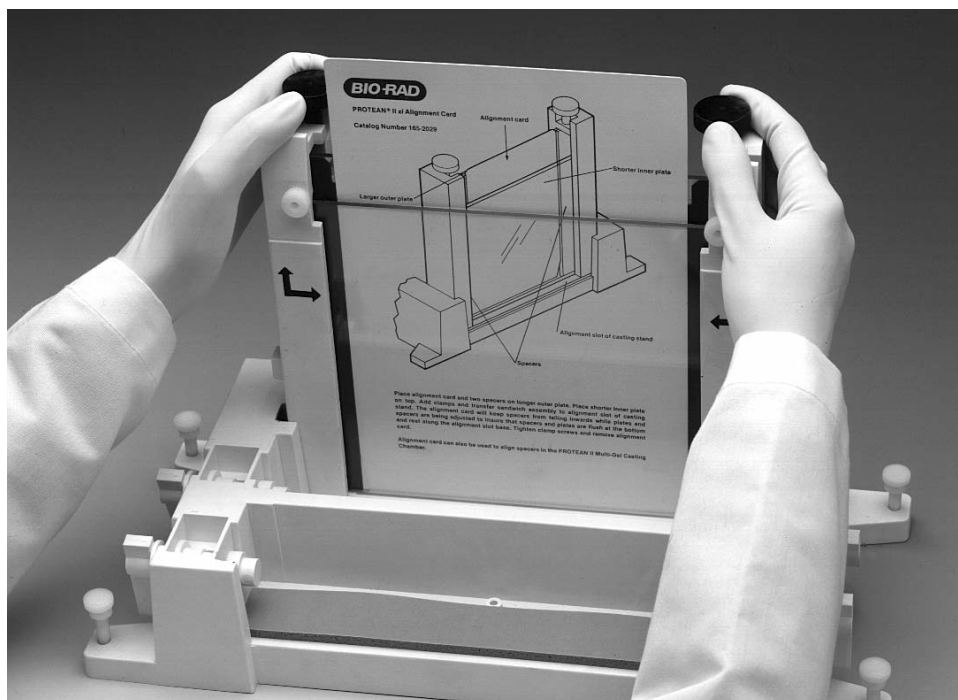

**Fig. 4.18. Attaching the clamps to the glass plate assembly.**
4. Grasp the gel sandwich firmly. Guide the left and right clamps onto the sandwich so that the long and short plates fit the appropriate notches in the clamp (Figure 4.18). Tighten the screws enough to hold the plates in place.